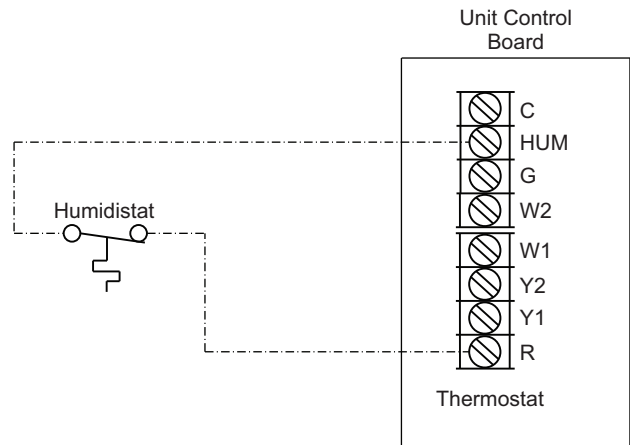

Fig. 53 — Humidistat Connections to UCB
3. Connect one of the leads from the 2-conductor cable to the HUM terminal on the UCB (Unit Control Board). Connect the other lead to the R terminal on the UCB. See Fig. 53.